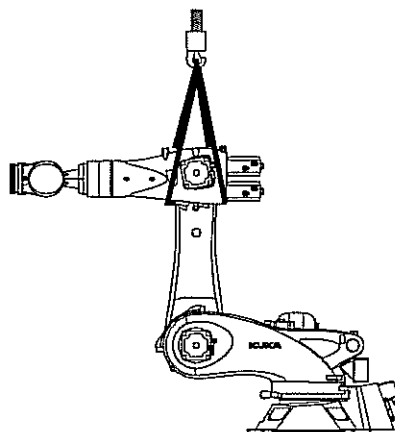

Fig. 12-3: Securing the link arm
1. Secure the link arm using a rope sling (>>> Fig. 12-3).